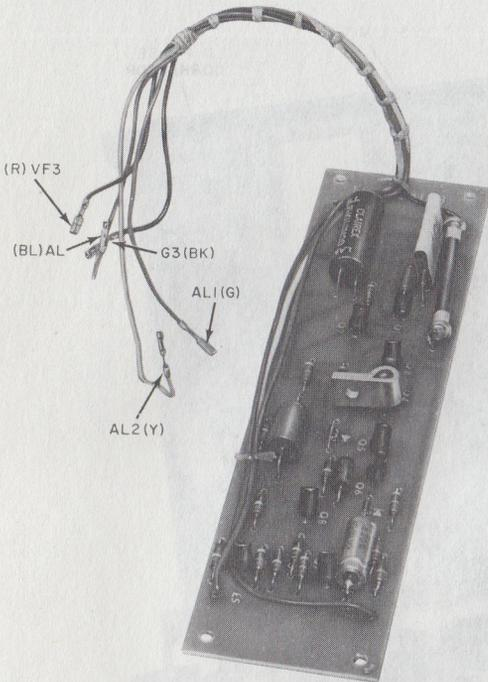

Fig. 4—KS-20721, List 13 Limiter
Limiter, KS-20721, L13 (Fig. 4)
2.03 The KS-20721, List 3 station coupler consists of a KS-20721, List 1 station coupler with a KS-20721, List 10 hinge assembly and KS-20721, List 13 limiter (Fig. 4) factory installed.
(4) Connect the flexible jumper leads on List 1 board to provide the options called for in Table A by using the connecting information given in Table B.
(5) Plug connecting leads from circuit packs into corresponding terminals on List 1 board per Table B and Fig. 4 and 5. Dress leads to avoid interference with boards and cover and secure leads with cable clamp provided.
(6) Close hinge assembly and fasten the two top corner fasteners.